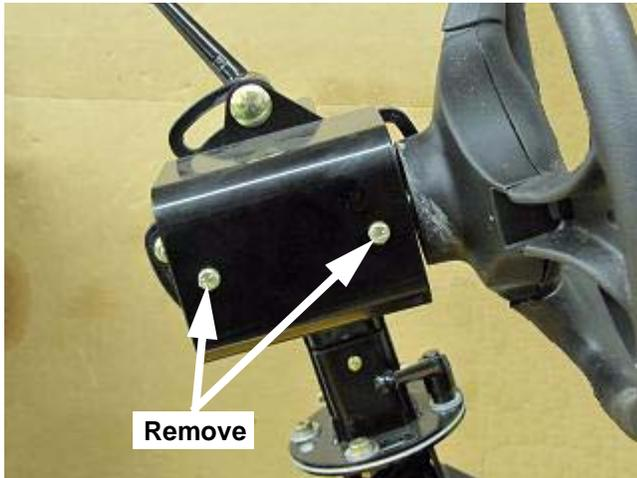

FIGURE 2
3. Remove the two (2) 1/4-20 x .75" hex cap screws and lock washers that secure the steering housing assembly cover in place. See Figure 2.